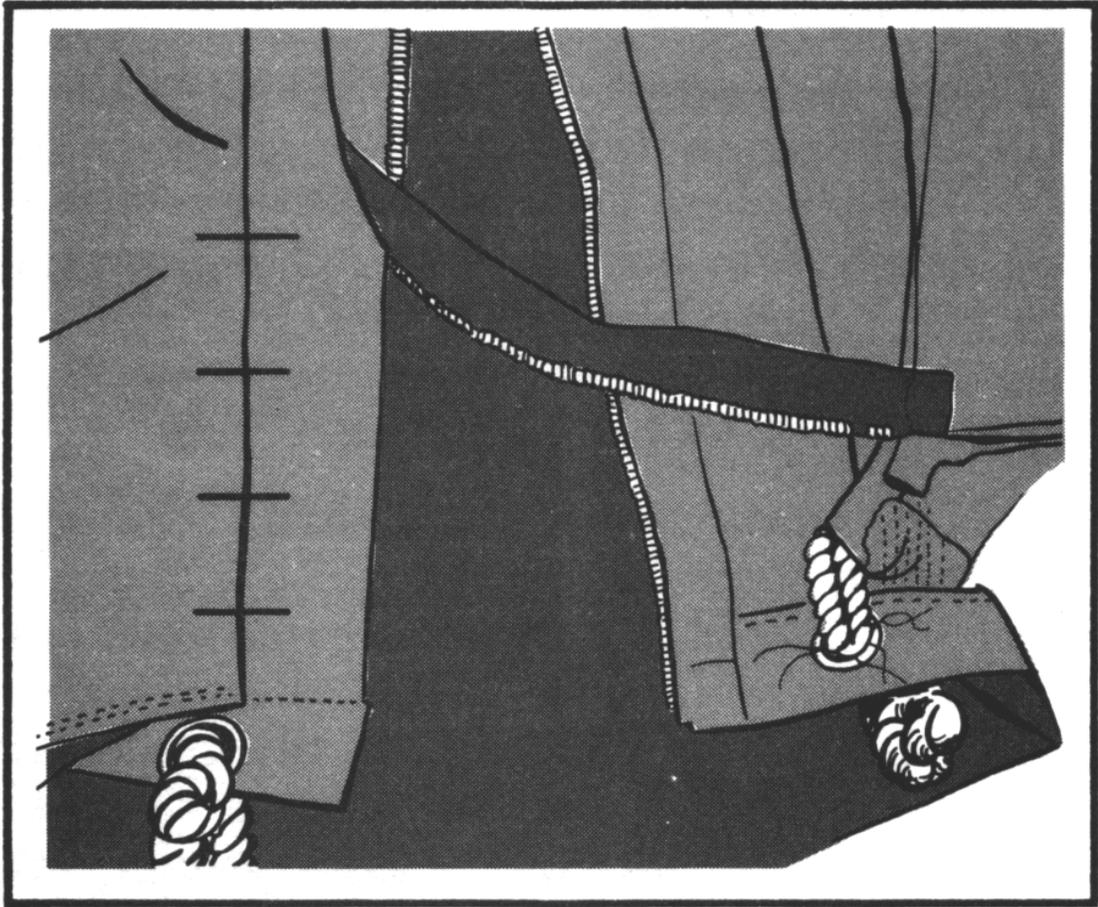

Figure 9-20. Index marks for positioning new zipper
d. Draw several horizontal chalk marks on each side of the new zipper (Figure 9-20). Draw the lines across the zipper tapes and the canvas in the tent. Use these index marks as guides to position the new zipper.